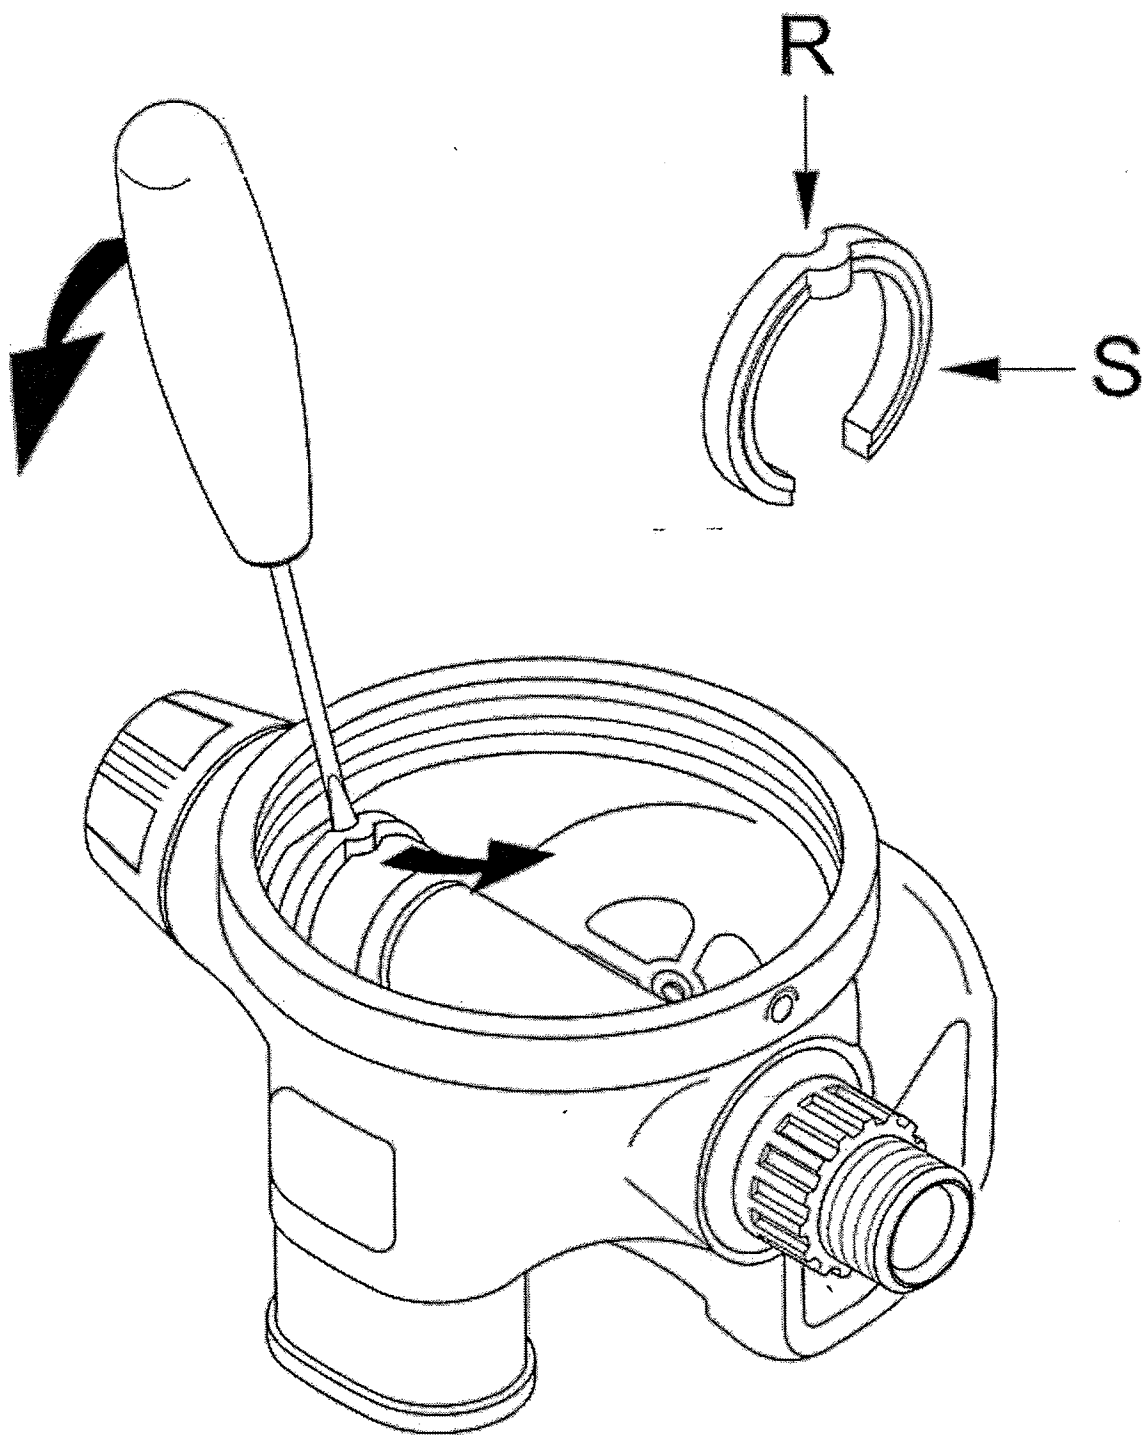

fig. 2
2. A modified co-molded inlet tube has been matched to the new configuration control knob, (listed under point 1), and is compatible with older S600 models. See Fig. 2